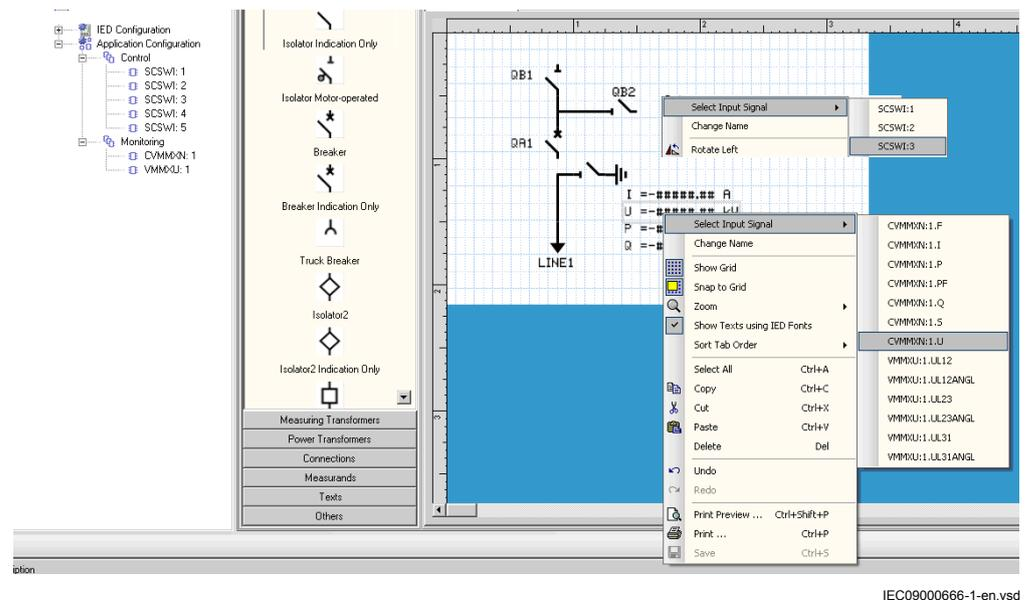

Figure 58: GDE: Establish a dynamic object link
8. Select each object that has a dynamic link and do the link to the corresponding process object, see Figure 58.